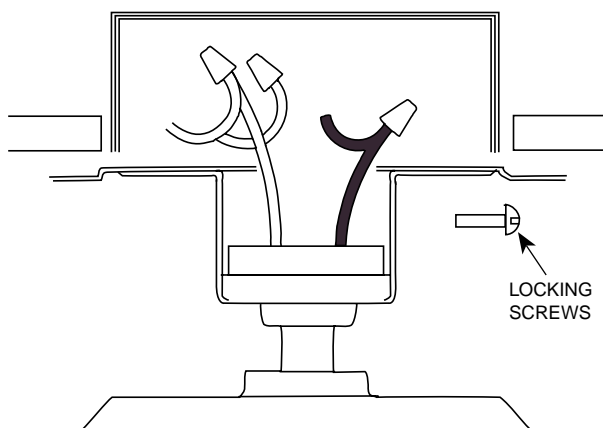

FIGURE 9
- A. Connect electrical supply leads to the leads from motor, using approved connectors. See Figure 9.
- A. Using two 8-32 by approximately 5/8" long screws from sack parts, thread the plastic hanger locking screws into the back of the hanger bracket. See Figure 9. The screws should be driven all the way into the bracket and tightened. The screws are located just above the plastic hanger and prevent the motor from twisting when the blades are assembled.